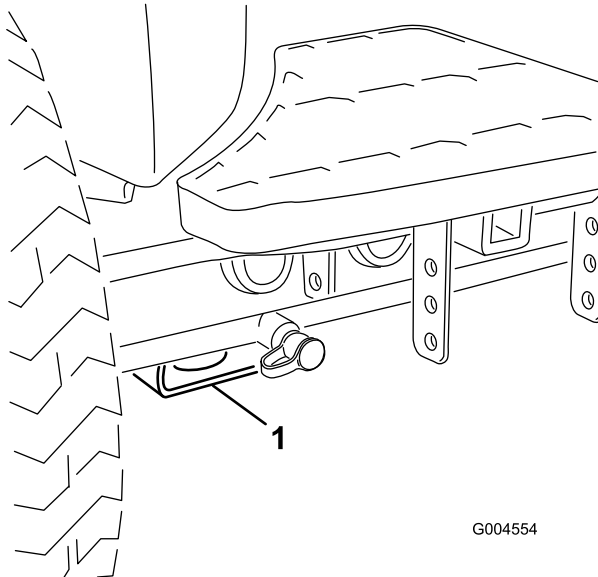

Figure 28
- **Front of the machine**—rectangular pad, under the axle tube, inside each front tire (Figure 28).